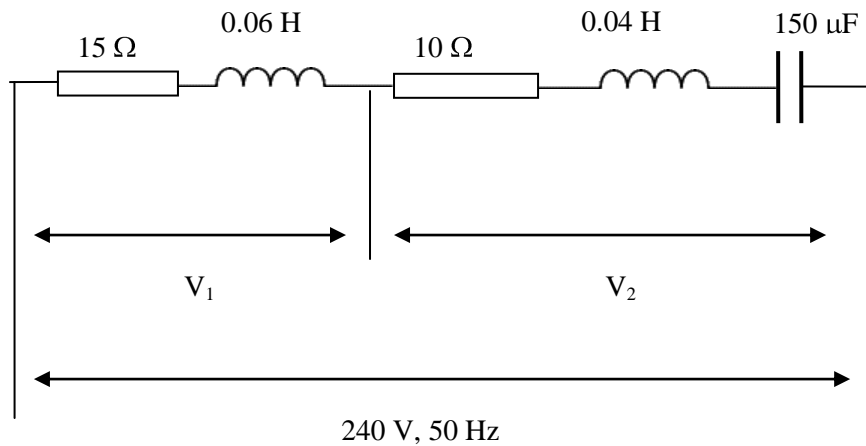

Fig Q4
4. For the circuit shown in Fig Q4, calculate EACH of the following:
- (a) the supply current; (6)
- (b) the power factor; (2)
- (c) the voltages  $V_1$  and  $V_2$  and their respective phase angles to the supply current. (8)